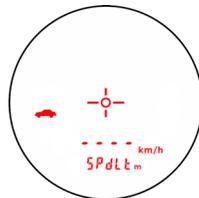

Figure 21
- “SPdLt” will appear in the lower display on the initial Speed Measurement Screen as Figure 21 shows.